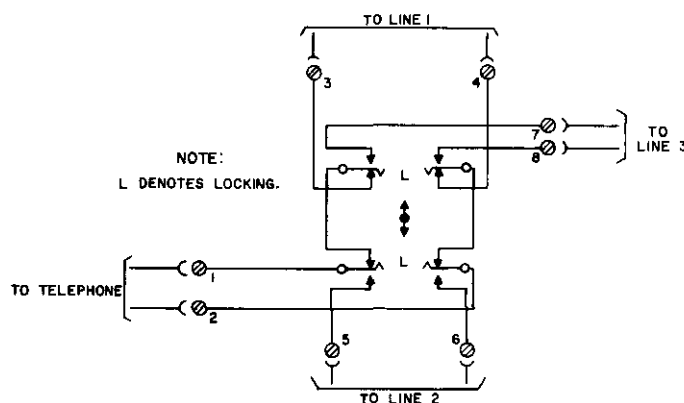

Figure 9. Three-Line Pickup.
4.15 Three-line pick-up permits access to one of three lines from the same telephone. Make the following connections to the key terminal strip for three-line pick-up (Figure 9):